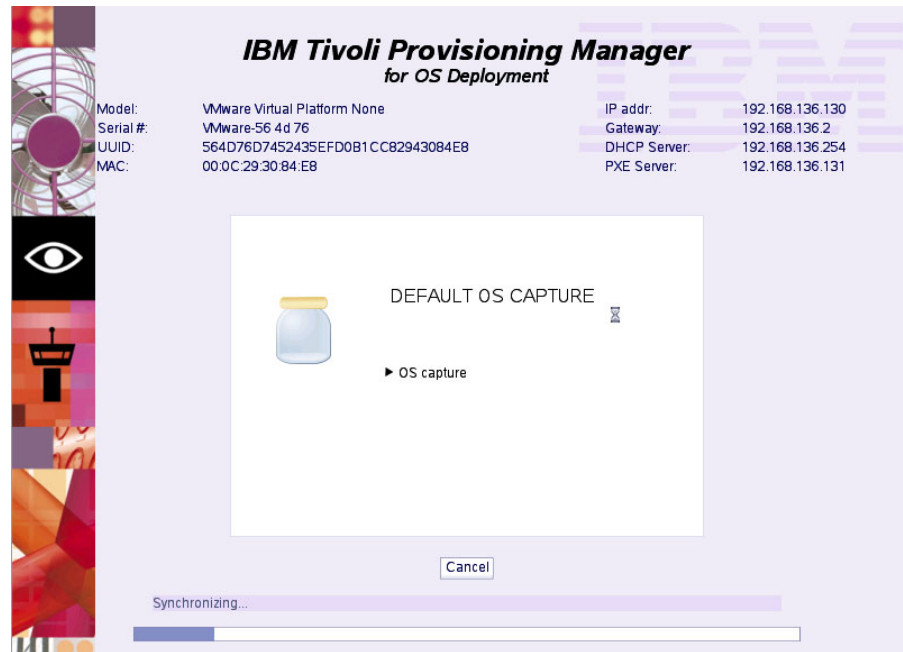

Figure 3-13 Capturing the OS image
9. Finally, click the **Next** button and the image will begin to be captured. The image build will take several minutes. This time will vary greatly depending on the size of the image, and the network between client and server, as shown in Figure 3-13 on page 67.